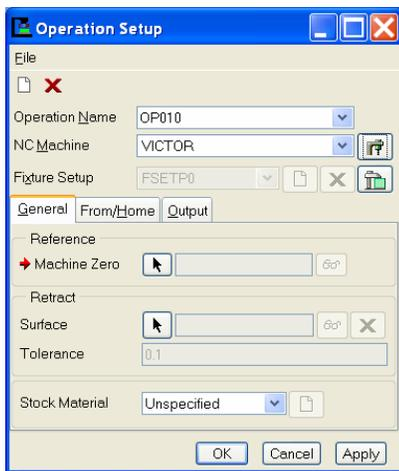

Figure 1.22
- 1) MFG Setup → Operation. Operation Setup window pops up automatically as shown in Figure 1.22.
- 2) Define NC machine. Click NC machine icon  in Figure 1.22, Machine Tool Setup windows pop up as shown in Figure 1.23. Enter the parameters as shown below
- 3) Define Machine Zero. Click Reference Machine Zero icon  in Figure 1.22. Create MACH CSYS as Figure 1.24. Pick workpiece to create coordinate system in. Pick 3 reference planes as Figure 1.27 (click two sides and top planes while holding down Ctrl key) to place origin as shown in Figure 1.25. Orient X, Y axes as shown in Figure 1.26.
- 4) Define retract plane. Click Retract Surface icon  in Figure 1.22. Retract Selection window pops up (Figure 1.28). Choose Along Z Axis, and in the panel of Enter Z Depth, input 0.5, click OK to close the window. The retract plane is shown in Figure 1.29.